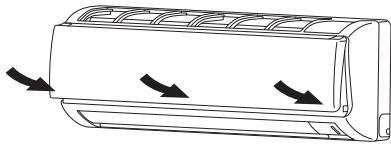

Fig. 3-45
- (b) Press the bottom right and left corners and center of the air intake grille to attach it to the indoor unit. (Fig. 3-45)